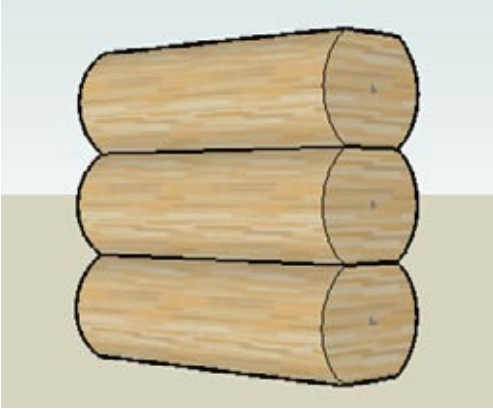

Figure 3-64
5. Draw lines on the front face to connect the intersection edges, and use Push/Pull to shave off the top and bottom. Close the component, and you now have flattened logs (Figure 3-64).